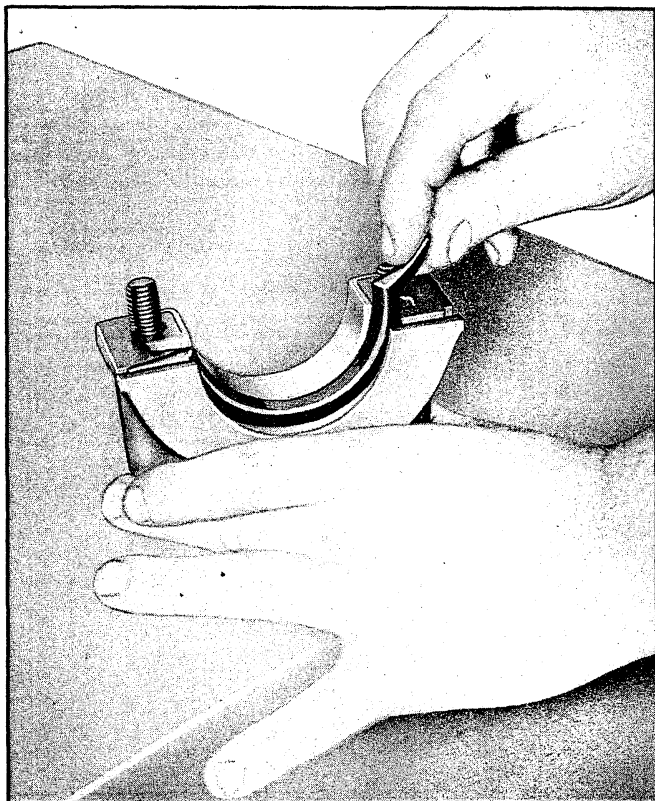

Fig. 7L - Removing Oil Seal (Lower Half)
2. Remove oil seal from the groove by lifting the end tab (fig. 7L) then clean seal groove.